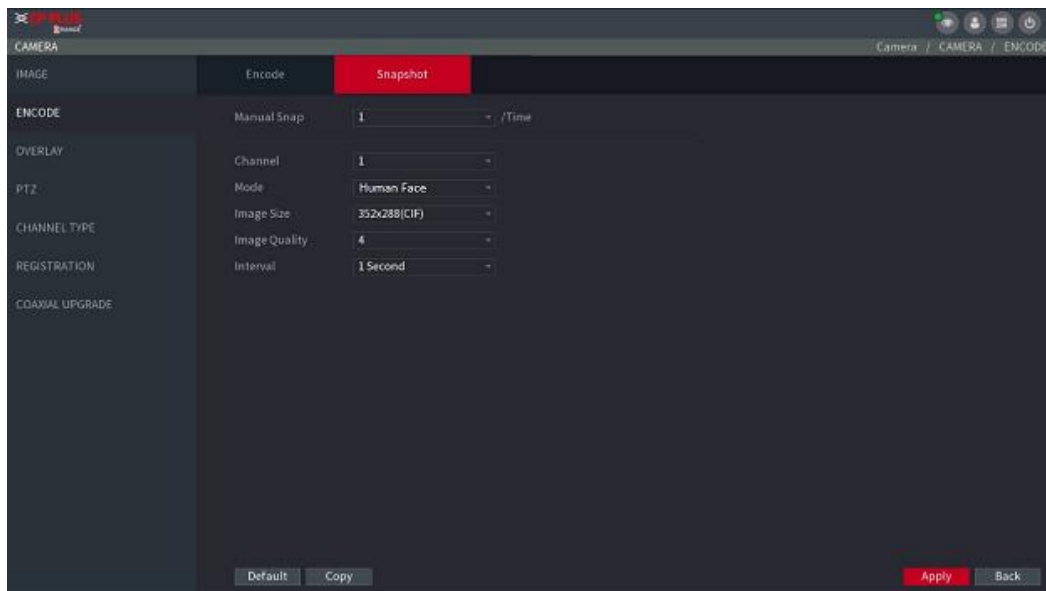

Figure 5-90
**Step 2** In the **Mode** list, select **Human Face**, and then configure other parameters. See Figure 5-90.